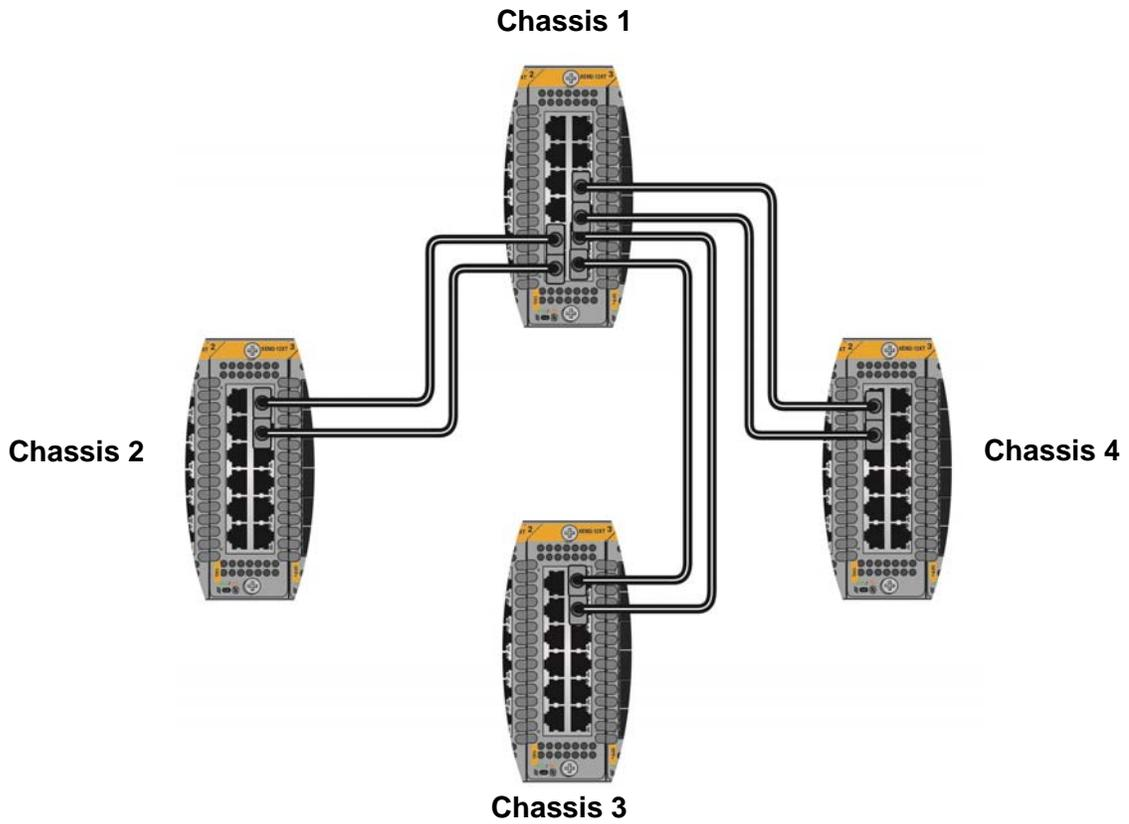

Figure 27. Unsupported Trunk Because a Chassis is Connected to Three Other Chassis
- ❑ In stacks of four chassis, no switch can have trunk links to more than two other chassis. The trunk example in Figure 27 is unsupported because chassis 1 has trunk links to all three of the other switches.